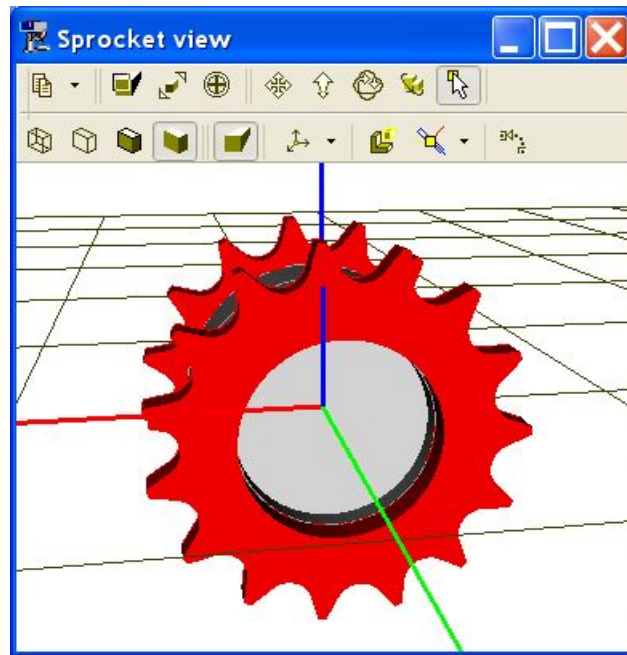

Fig. 14 Sprocket preview
3) Use the button to preview the sprocket, Fig. 14. Note the sprocket radius is computed automatically by the link length, t_w / t_t ratio and number of teeth so that the final variant can differ from the current one.